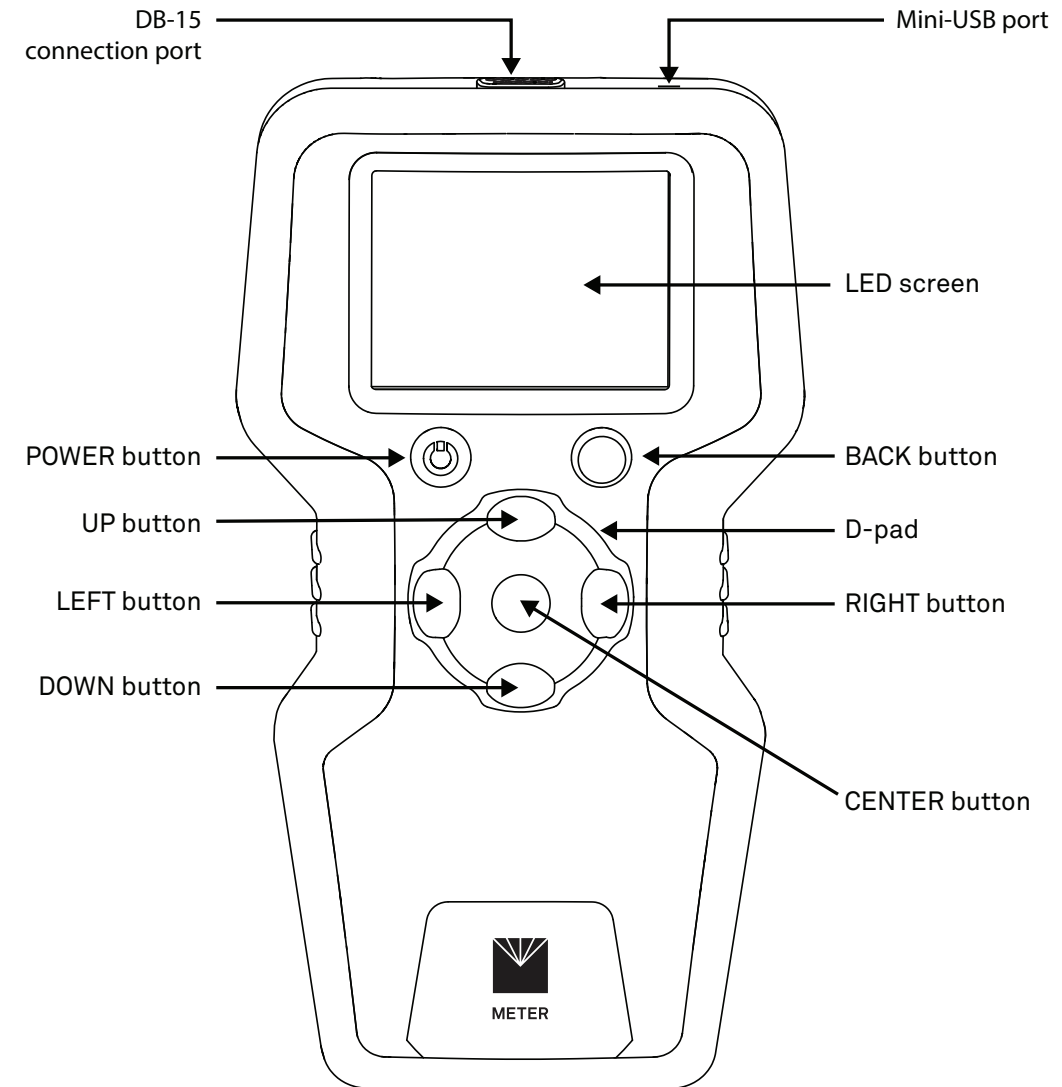

Figure 2 TEMPOS controller
The **POWER** button (Figure 2) turns the TEMPOS controller on and off. To completely power down the unit, press the **POWER** button and hold for 5 s.
Pressing the **BACK** button (Figure 2) moves the cursor back to the previous screen. When it is pressed multiple times, the cursor moves back to the Main menu. Changes are automatically saved.
The central control of the TEMPOS controller is the D-pad (Figure 2). Selecting configurations or options in the TEMPOS controller will require the use of these buttons.
- The **CENTER** button (Figure 2) serves as the Select or Enter function.
- The **UP**, **DOWN**, **RIGHT**, and **LEFT** buttons (Figure 2) are active when an icon or text on the display screen is highlighted in red. These arrows allow the user to scroll within a field or to select a field before pressing the **CENTER** button.